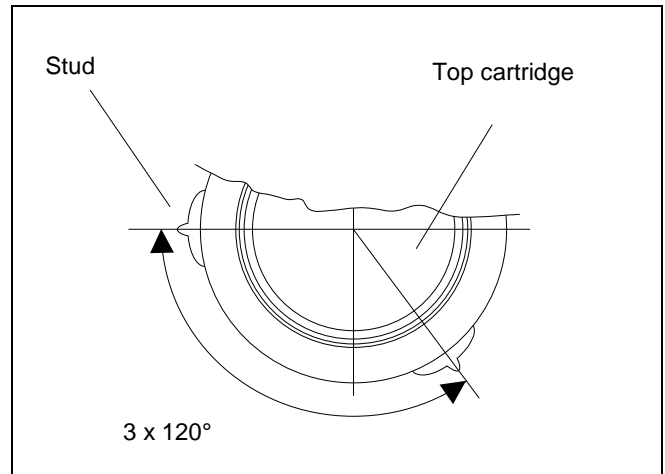

Fig. 10: Top view of the filter cartridge
- Glue the seal (12) to the filter plate (13).
- Push the mounted AE (14) through the filter plate (13).
- Screw the 3-point mount of the mounted AE (14) to the filter plate (13) (see "To prepare the filter plate").
- Push the top cartridge (15) over the rotating wing of the mounted AE (14) up to the filter plate and centre ring (17).
- Turn the cartridge (15) so that the three studs (see Fig. 10) are aligned with the three fixing bolts (21).
- Push the bottom cartridge (15) and double centre ring (18) over the rotating wing of the mounted AE (14) up to the top cartridge.
- Screw the loose end cap (16) and threaded hex connection (19) onto the threaded rod (20) of the spindle up to the filter plate.